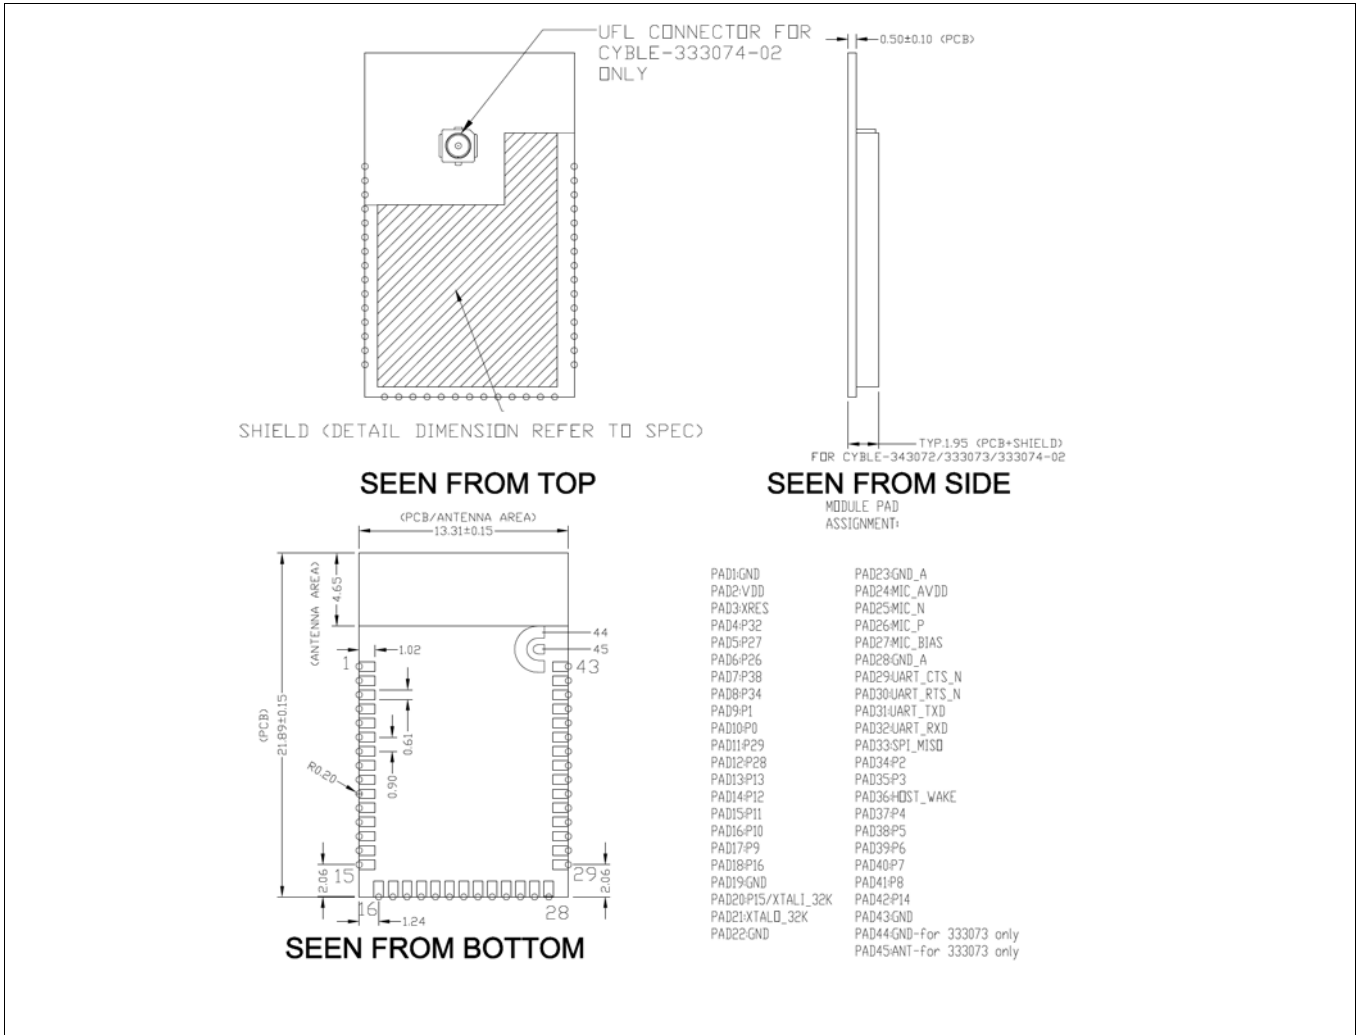
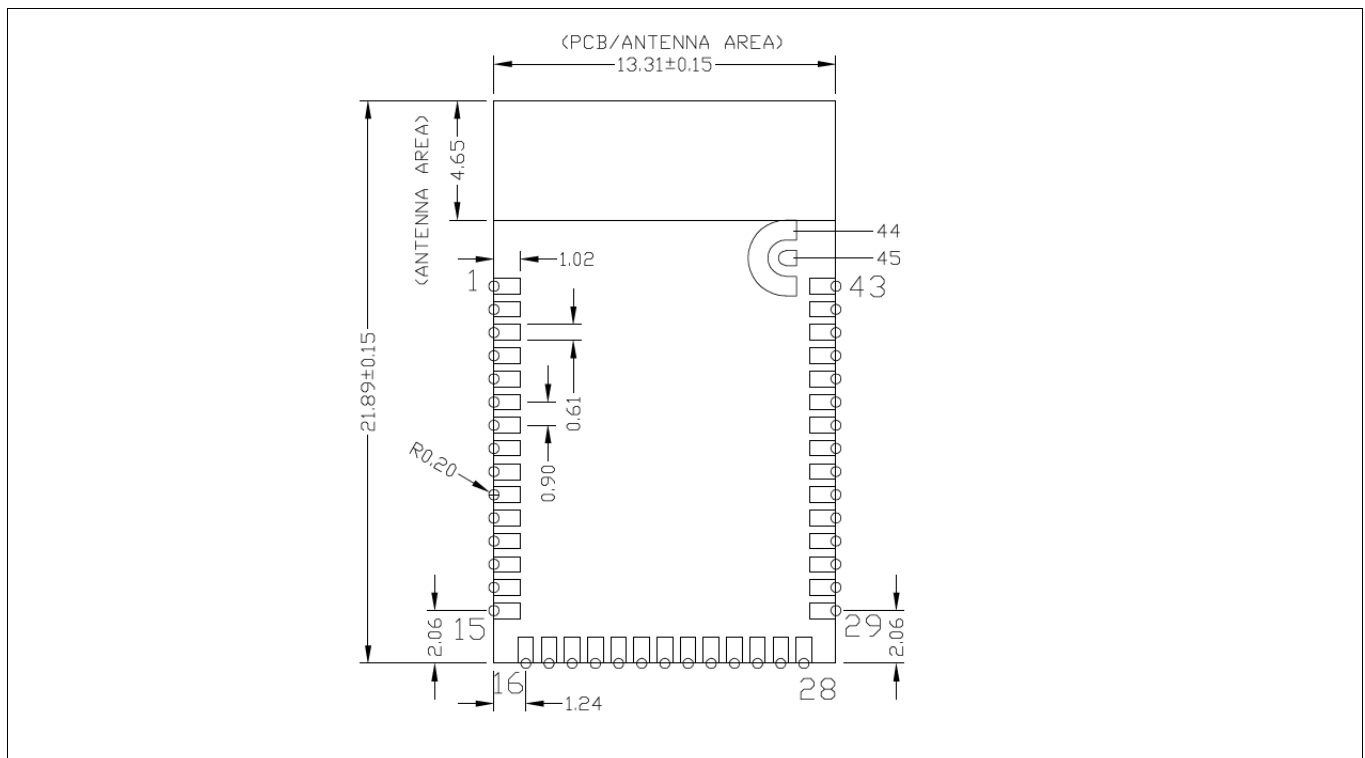

Figure 2 Module mechanical drawing
Figure 3 Solder pad dimensions (seen from bottom)
Infineon reserves the right to select components from various vendors to achieve the Bluetooth® module functionality. Such selections will still guarantee that all mechanical specifications and module certifications are maintained. Designs should be held within the physical dimensions shown in the mechanical drawings in Figure 2 on page 7. All dimensions are in millimeters (mm).
See **Figure 2** for the mechanical reference drawing for CYBLE-3x307x-02.
As shown in the bottom view of Figure 2 on page 7, the CYBLE-3x307x-02 connects to the host board via solder pads on the backside of the module. Table 2 and Figure 3 detail the solder pad length, width, and pitch dimensions of the CYBLE-3x307x-02 module.
1. Antenna Area Keepout: The host board directly below the antenna area of the module (see Figure 2 on page 7) must not contain ground or signal traces. This keepout area requirement applies to all layers of the host board.
2. Module Placement: The ideal placement of the Bluetooth® module is in a corner of the host board with the PCB trace antenna located at the far corner. This placement minimizes the additional recommended keepout area stated in item 2. Refer to AN96841 for module placement best practices.